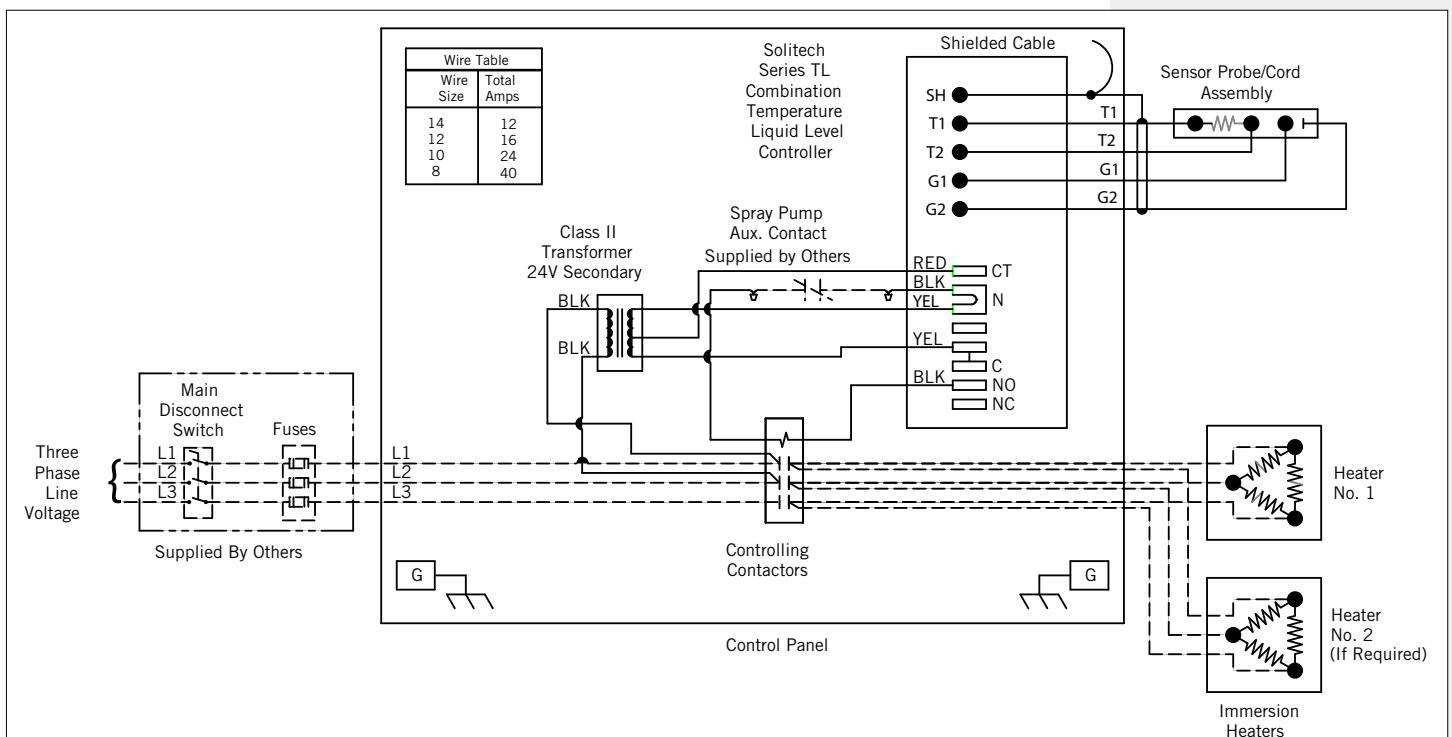

Figure 43. Example Wiring Diagram for Stand Alone BAC Heater Control Panel (Refer to Submittal Drawing for Specific Wiring Diagram)
**NOTE:** Figure 43 is superseded by any drawing supplied with the panel by the manufacturer.